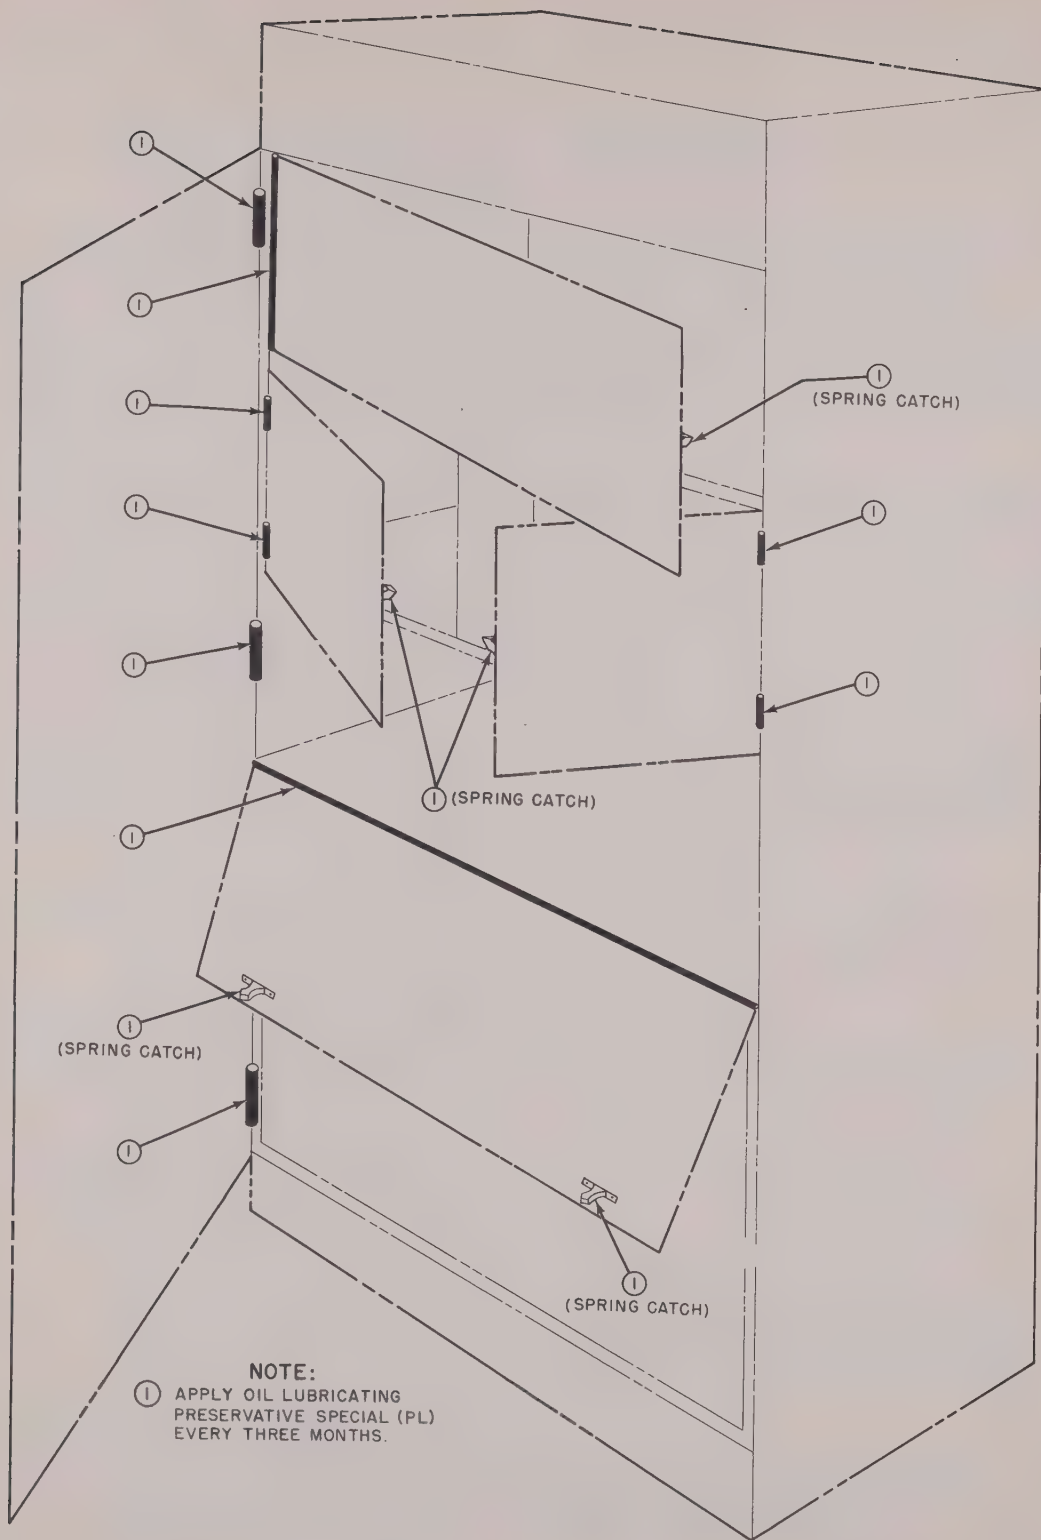

Figure 37. Rectifier Power Unit Model 36D, lubrication
c. Rectifier Power Unit Model 36D. Open the doors on the front and wipe the hinges with a clean lint-free cloth. Lubricate the door hinges as specified in figure 37.